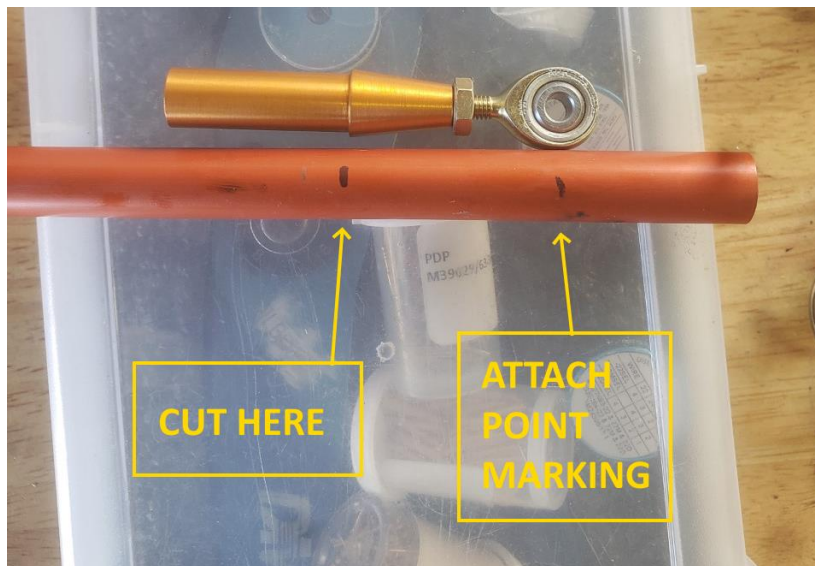

FIGURE 2-11 PUSH PULL TUBE TRIMMING
15. With ailerons in the neutral position mark the RH aileron attach point on the open end of the tube with a sharpie, or equivalent marking device. Refer to Figure 2-11.
16. Remove the 1006231-1 tube from the aircraft and on the open end of the tube place the provided rod- insert bolt hole next your mark. (with 4 threads showing on the rod end). Make a new marking on the tube at the base of the taper of the insert. Cut the tube at the new marking. Refer to Figure 2-11.